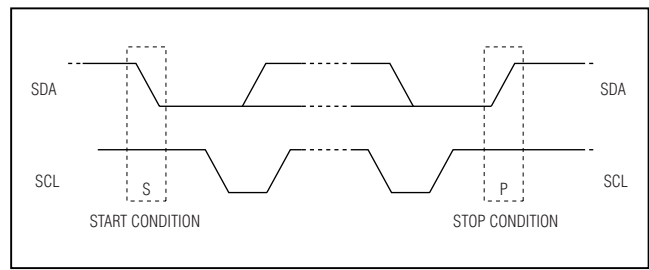

Figure 22. START and STOP Conditions
Both SDA and SCL remain high when the bus is not busy. A high-to-low transition of SDA, while SCL is high, is defined as the START (S) condition. A low-to-high transition of the data line while SCL is high is defined as the STOP (P) condition (Figure 22).